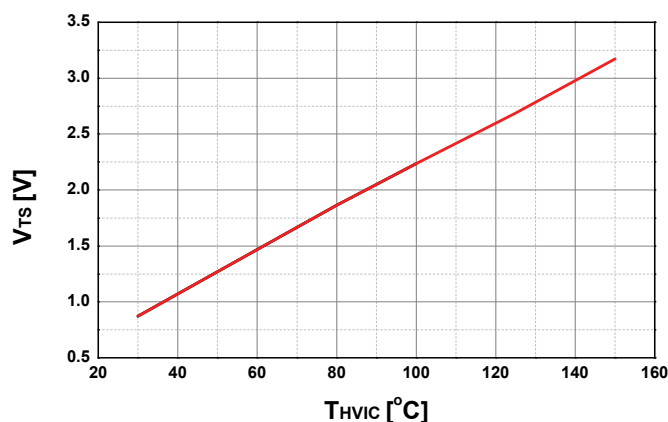
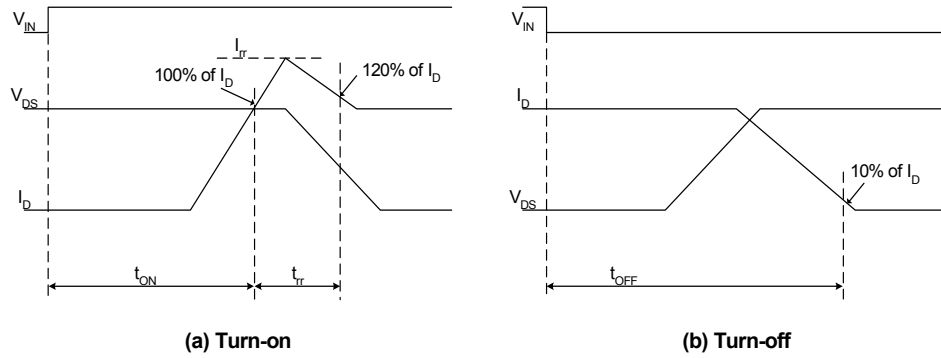

Figure 6. Temperature Profile of V_{TS} (Typical)
Figure 7. Switching Time Definitions
- t_{ON} and t_{OFF} include the propagation delay of the internal drive IC. Listed values are measured at the laboratory test condition, and they can be different according to the field applications due to the effect of different printed circuit boards and wirings. Please see Figure 6 for the switching time definition with the switching test circuit of Figure 7.
- The peak current and voltage of each MOSFET during the switching operation should be included in the Safe Operating Area (SOA). Please see Figure 7 for the RBSOA test circuit that is same as the switching test circuit.